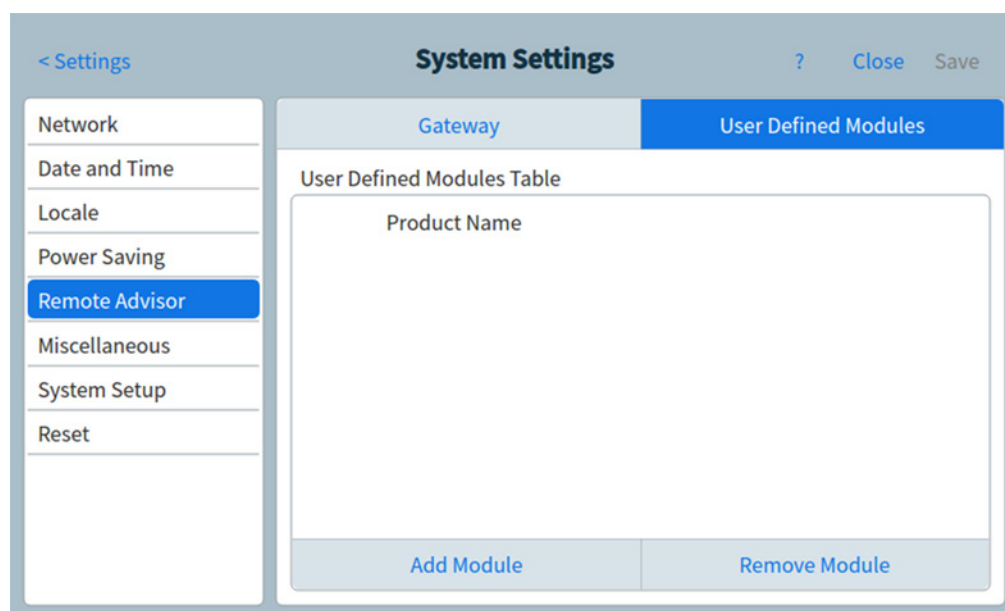

Figure 45 Remote Advisor page - User Defined Modules tab
- a Press the **User Defined Modules** tab. The **User Defined Modules** page appears. See Figure 45.